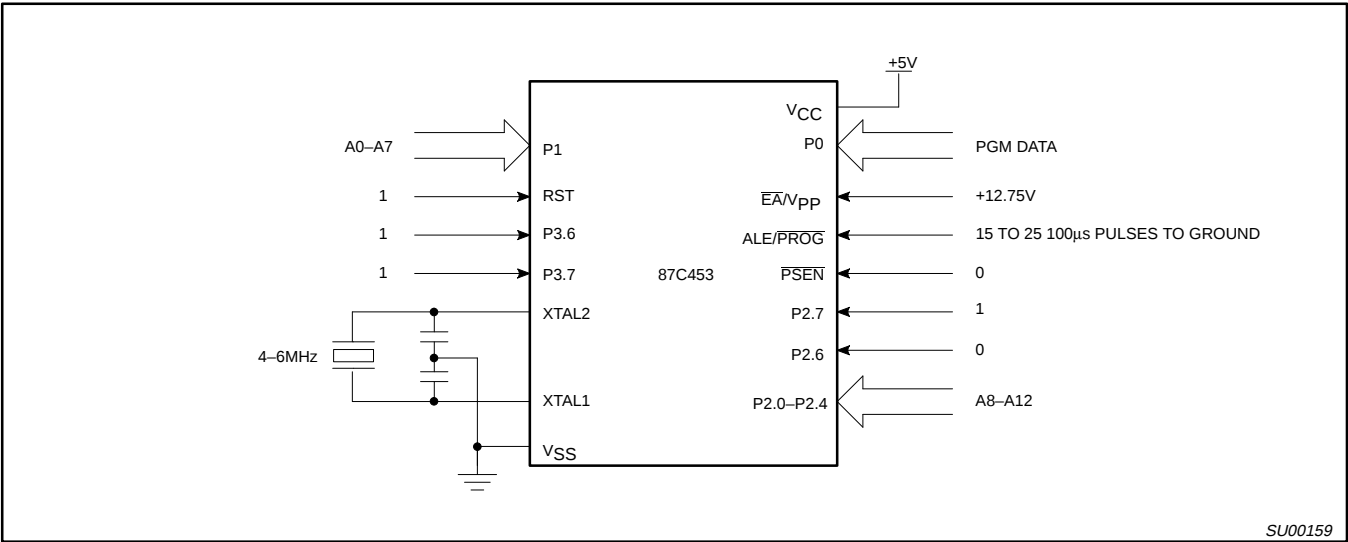
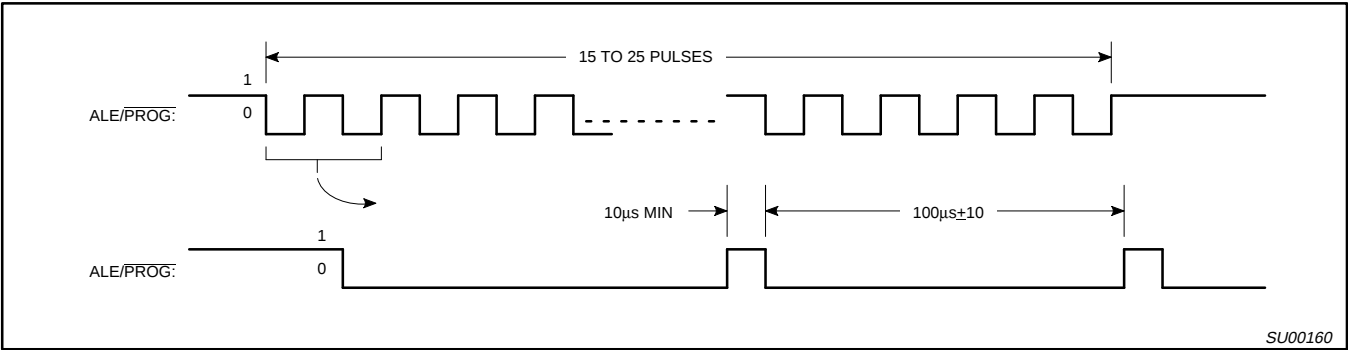
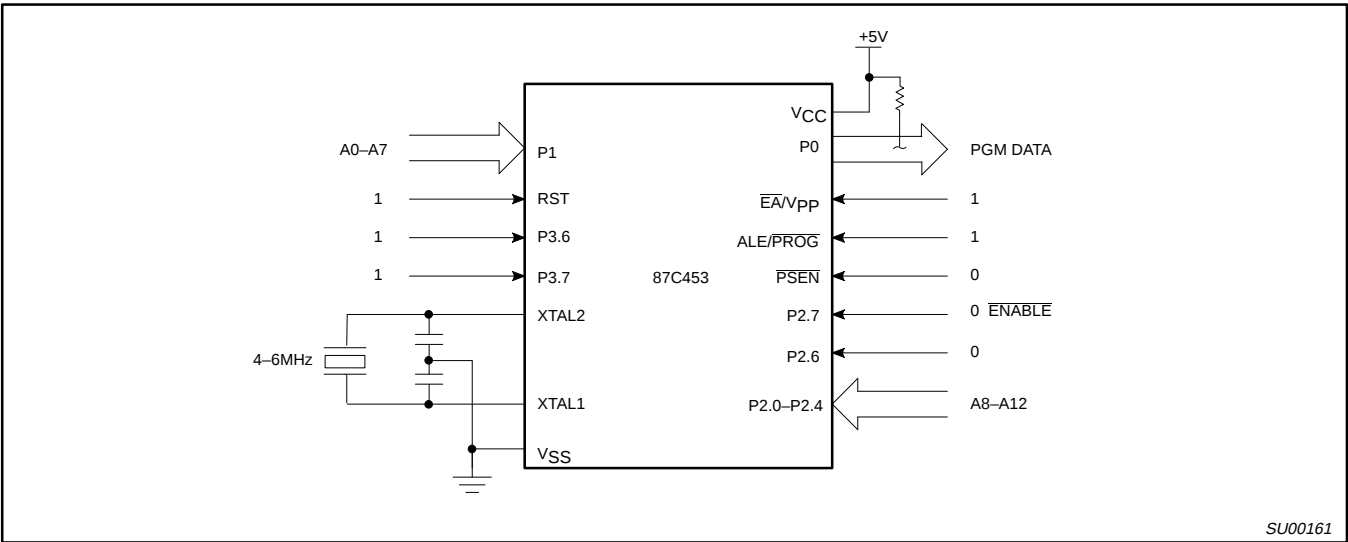

Figure 25. Programming Configuration
Figure 26. $\overline{PROG}$ Waveform
Figure 27. Program Verification
Table 4 shows the logic levels for reading the signature byte, and for programming the program memory, the encryption table, and the lock bits. The circuit configuration and waveforms for quick-pulse programming are shown in Figures 25 and 26. Figure 27 shows the circuit configuration for normal program memory verification.
The setup for microcontroller quick-pulse programming is shown in Figure 26. Note that the 87C453 is running with a 4 to 6MHz oscillator. The reason the oscillator needs to be running is that the device is executing internal address and program data transfers.
The address of the EPROM location to be programmed is applied to ports 1 and 2, as shown in Figure 25. The code byte to be programmed into that location is applied to port 0. RST, $\overline{PSEN}$ and pins of ports 2 and 3 specified in Table 4 are held at the 'Program Code Data' levels indicated in Table 4. The ALE/PROG is pulsed low 15 to 25 times, as shown in Figure 26.
If lock bit 2 has not been programmed, the on-chip program memory can be read out for program verification. The address of the program memory locations to be read is applied to ports 1 and 2 as shown in Figure 27. The other pins are held at the 'Verify Code Data' levels indicated in Table 4. The contents of the address location will be emitted on port 0. External pull-ups are required on port 0 for this operation.
- * FOR PROGRAMMING VERIFICATION SEE FIGURE 25.
FOR VERIFICATION CONDITIONS SEE FIGURE 27.